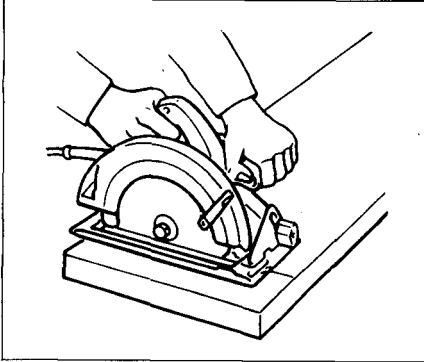
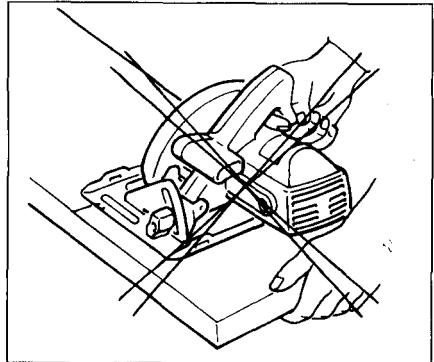

Fig. 5
Fig. 6
15. Place the wider portion of the saw base on that part of the workpiece which is solidly supported, not on the section that will fall off when the cut is made. As examples, Fig. 5 illustrates the **RIGHT** way to cut off the end of a board, and Fig. 6 the **WRONG** way. If the workpiece is short or small, clamp it down. **DON'T TRY TO HOLD SHORT PLACES BY HAND!**